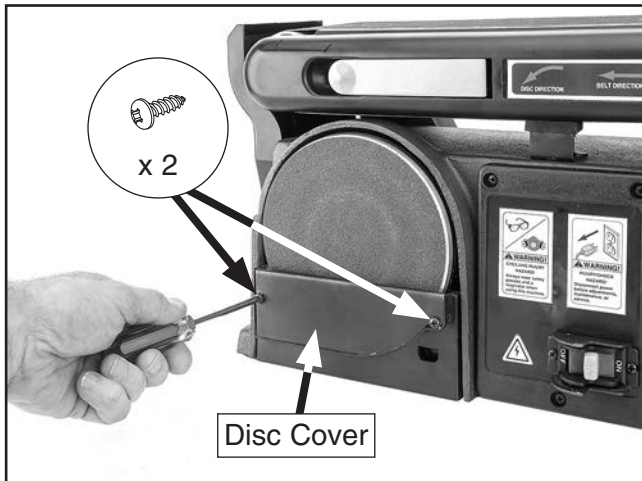

Figure 8. Installing disc cover.
2. Mount disc cover to holes in sander body near bottom of aluminum disc, using (2) M4 x 10 tap screws, as shown in **Figure 8**.